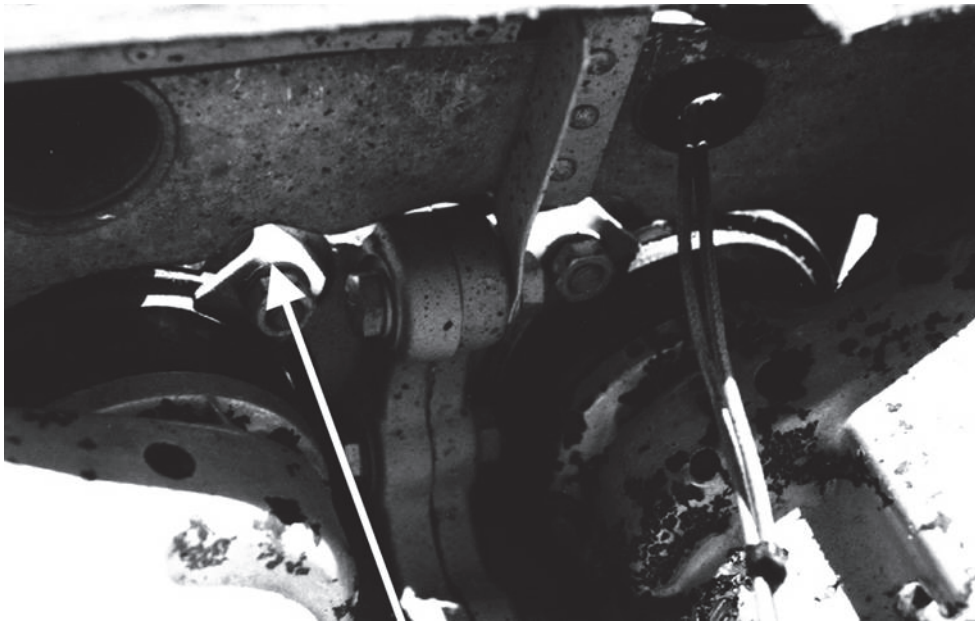
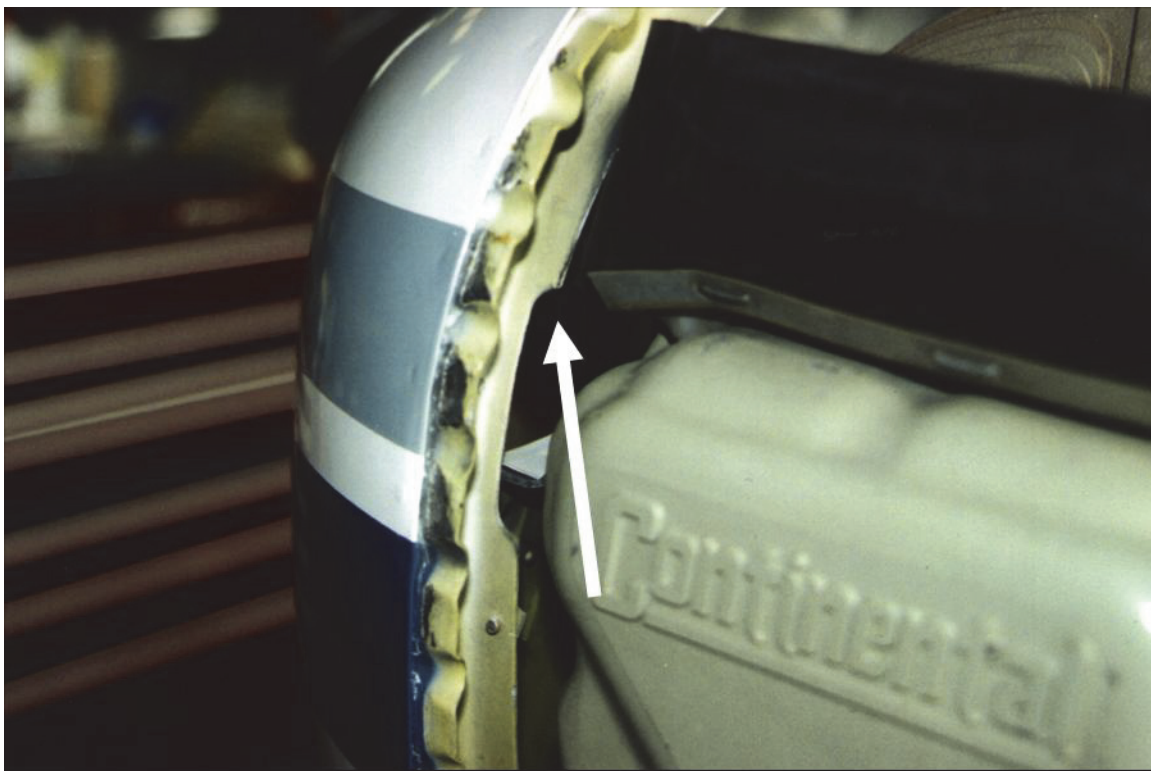
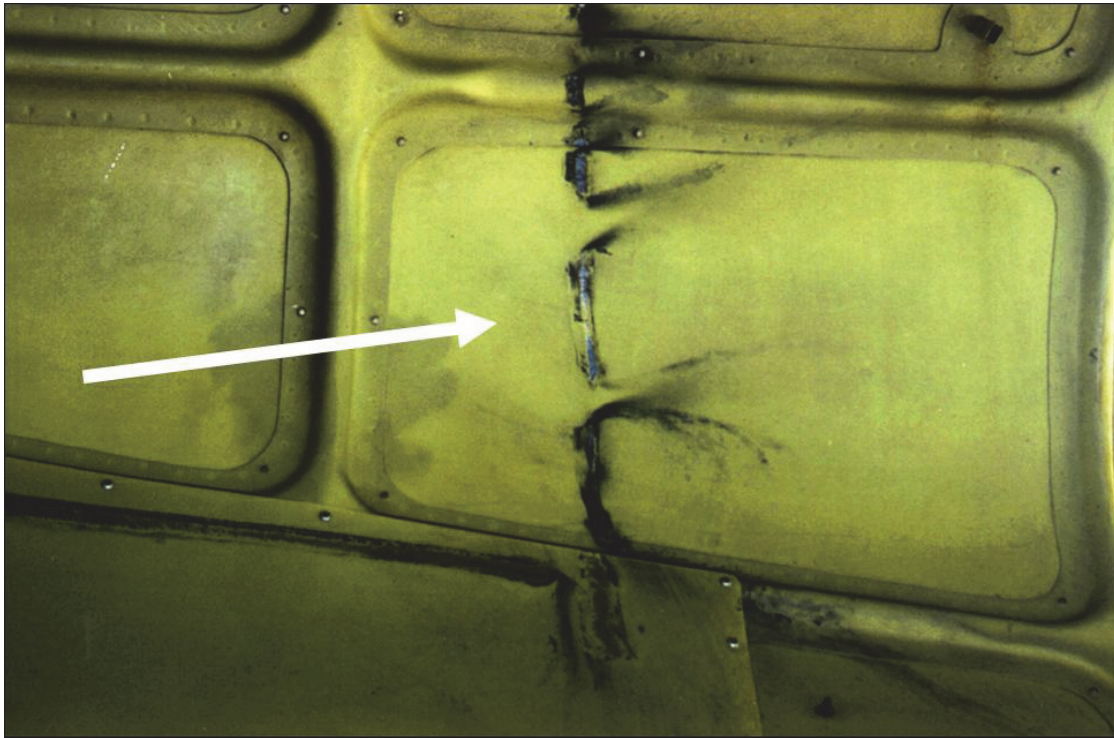

Figure 6-78. Aft and Side Baffles with Air Gaps
Figure 6-79. Cooling Loss Due to Gaps in Baffle Seals
Figure 6-80. Cooling Loss Due to Gaps in Baffle Seals
4. Inspect for holes and cracks that would allow cooling airflow to be wasted. Seal any cracks or holes by applying a non-corrosive silicone adhesive/sealant. Consult the aircraft manufacturer for application instructions. Baffle conditions shown in Figure 6-78 shows air gaps that lead to inadequate cooling airflow. Figure 6-79 and Figure 6-80 show evidence of cooling air loss at the baffle seals.